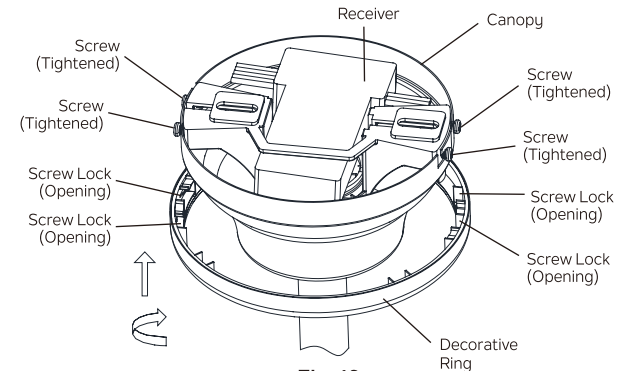

Fig. 16
Step 5. Carefully raise the decorative ring up to the top of the canopy. **(Fig. 16)**
NOTE: The decorative ring will slide up into position when aligned with the screw heads on the ceiling mounting bracket. Align the openings in the top of the screw locks (2 on each side of the decorative ring) with the 2 screw heads on each side of the ceiling mounting bracket. **(Fig. 16)**
Carefully turn the decorative ring (clockwise) until it locks into position on the screw heads. **(Fig. 16).**